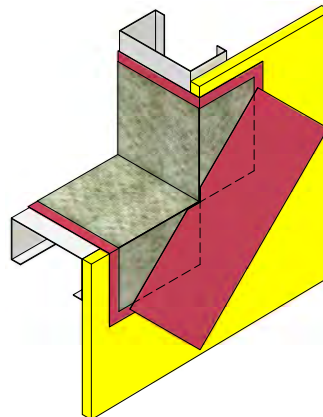

Figure 23
3. Apply FLASHING PRIMER over the areas to receive additional WS FLASH. (See Figure 23)